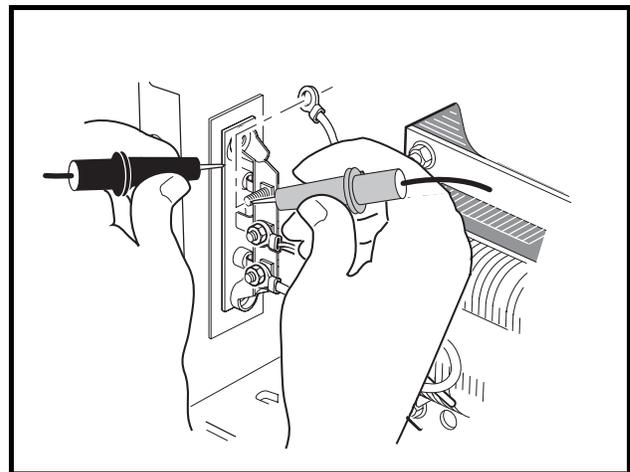

Figure 4-10 Diode Test – Probes Reversed
6. Reverse test probes and check each diode again and note the reading (**Figure 4-10, Page 4-13**). A diode is designed to conduct current in one direction only. If a diode conducts current (shows continuity) in both directions, the entire heatsink with diodes must be replaced. If a diode does not conduct current (does not show continuity) in either direction, the entire heatsink must be replaced.